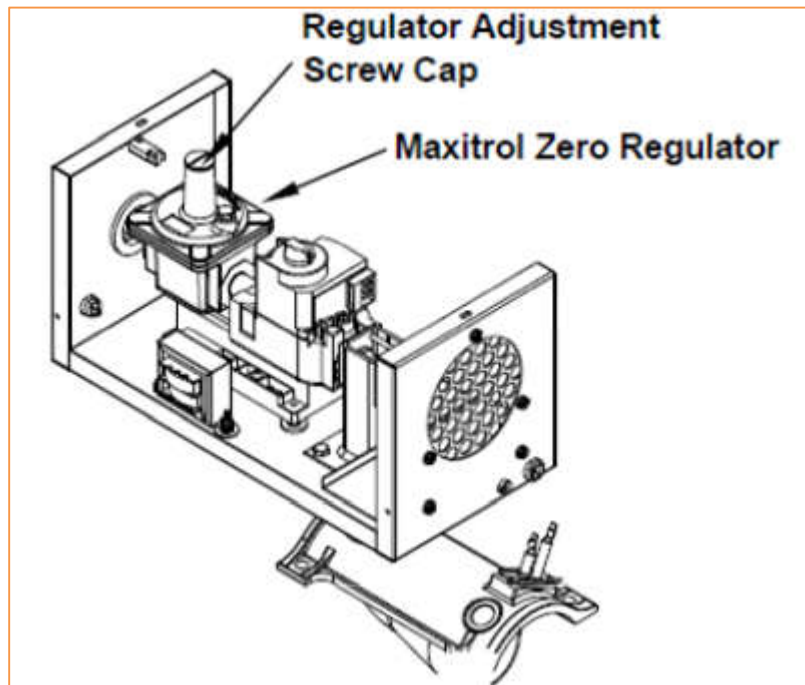

Figure 49: Maxitrol Zero Regulator
1. Now we are ready to start up the burner. Before plugging in the burner, take the cap off the Maxitrol Zero Regulator. Refer to Figure 49 below to locate Zero Regulator.